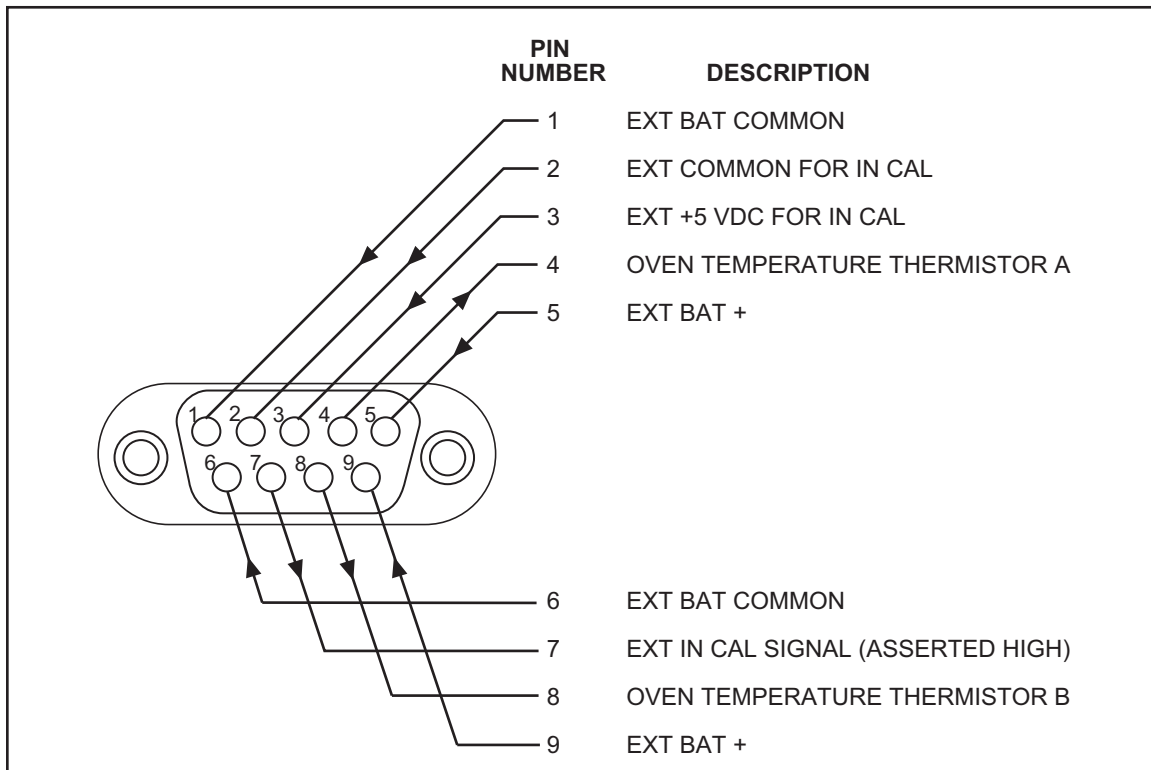
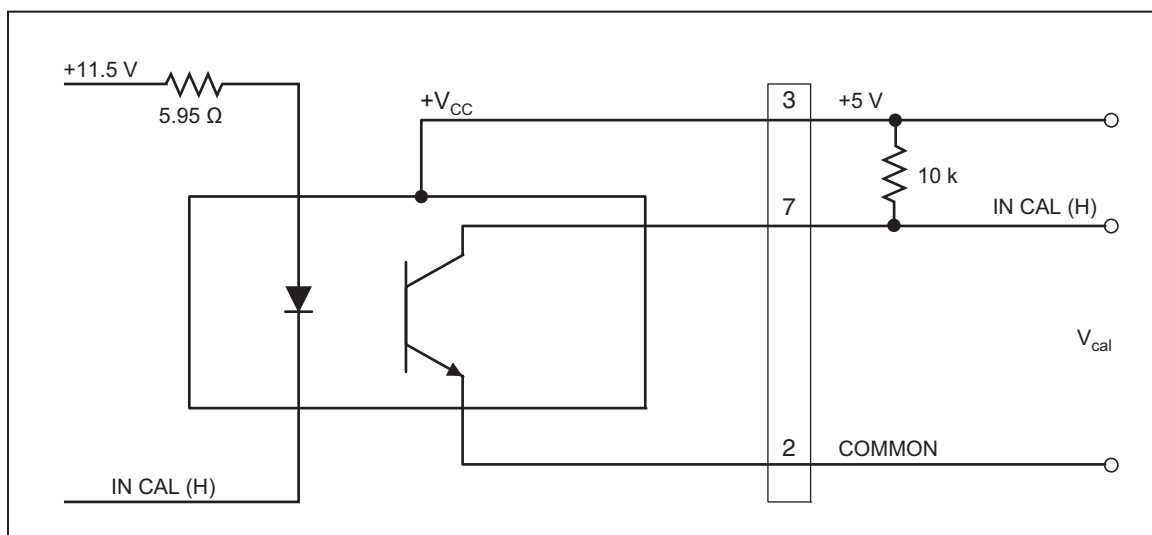

Figure 10. 732C MONITOR/EXT BAT IN Connector Pinout
Figure 13. IN CAL Status Output Circuit
You can power the standard using an external battery such as the 732C-7001 External Battery/Charger, or other 12 to 15V dc source that can supply at least 300 mA. You connect the external dc source through the MONITOR/EXT BAT IN connector. Figure 10 shows a pinout diagram of the MONITOR/EXT BAT IN connector. Use this method if you need to operate the standard on battery power for a period longer than 72 hours. Or, if the preferred power source is 12 V dc to 15 V dc, you can use this method to power the standard permanently. Leave the 732C BAT the switch set to **A** to connect the internal and external batteries in parallel. Each battery is protected from high discharge into the other by current-limiting varistor. Set the 732C BAT switch to **B** to isolate the internal and external batteries. In this switch position, an external dc source connected to the MONITOR/EXT BAT IN input continues to power the 732C, but is isolated from the 732C's internal battery.
5. Fabricate and connect a cable with a 9-pin connector on each end so that the battery output from the 732C-7001 is connected to the external dc input of the 732C. See Figures 10 and 11 for the connector pinouts.
As shown in Figure 10, MONITOR/EXT BAT IN pins 4 and 8 connect to the two terminals of the oven temperature thermistor. To monitor the oven temperature, measure the resistance between these two pins. The nominal resistance at normal operating temperature is between 36.5 k Ω and 42.5 k Ω . The resistance should change with time by no more than 900 Ω per year. The TC (temperature coefficient) of the thermistor is approximately 2 k Ω per $^{\circ}\text{C}$.
As shown in Figure 10, three of the MONITOR/EXT BAT IN pins are connection points for monitoring the state of the IN CAL indicator. Figure 13 illustrates the IN CAL status output circuit inside the 732C. Proceed as follows to use this connector to remotely monitor the IN CAL indicator: